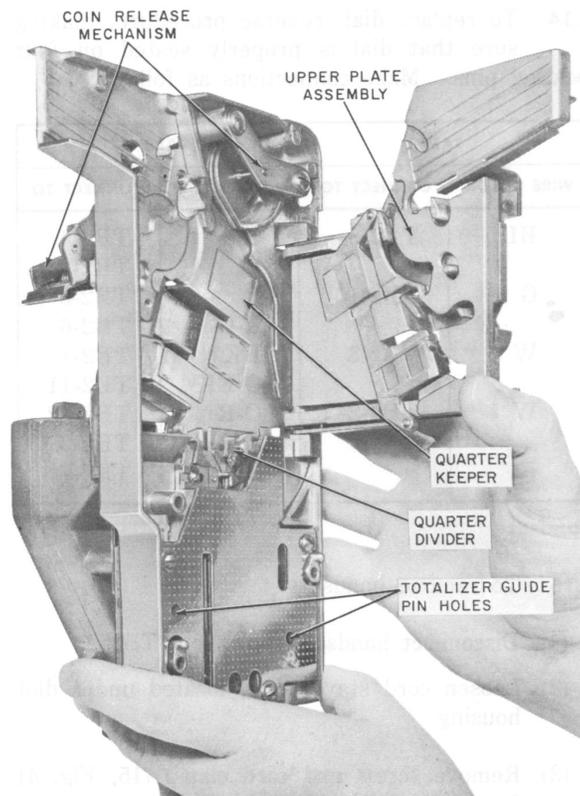

Fig. 13—Coin Chute Assembly
- (1) Operate coin release lever in attempt to clear coins in return chute.
- (2) If trouble does not clear:
- Swing upper plate assembly open (Fig. 13).
Note: In early models, the quarter keeper, (Fig. 13), located in the coin chute, may become loose and not permit the quarter to pass. **Do not** attempt to repair this in the field.